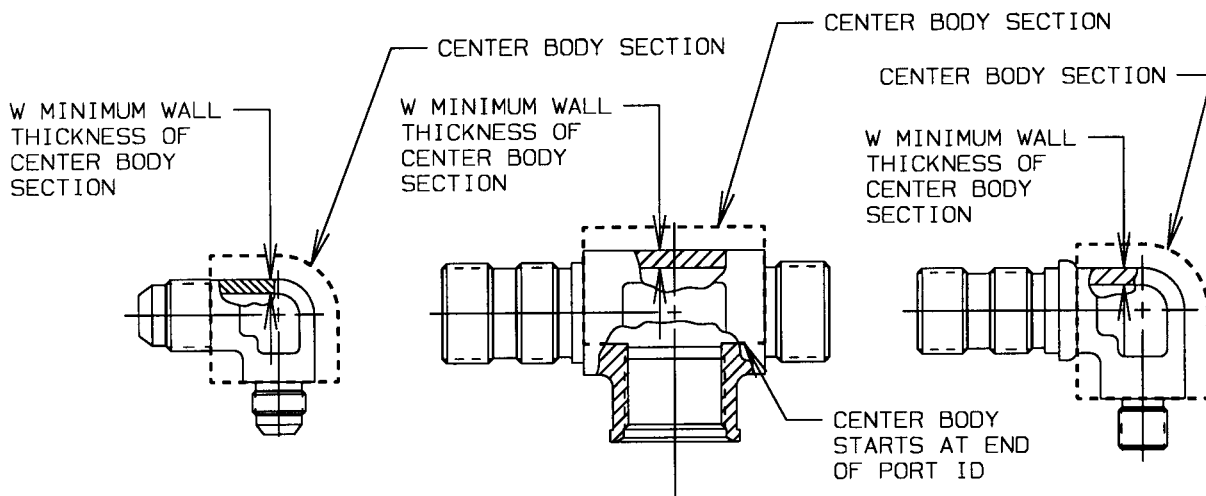

FIGURE 2 - Examples of Center Body Sections of Shape Fittings
- 3.1.3 The “center body section” is defined as that portion of the shape fitting that is not dimensioned by the individual fitting end design standards except the internal passage hole may be the minimum hole from the design standard. See examples in Figure 2.